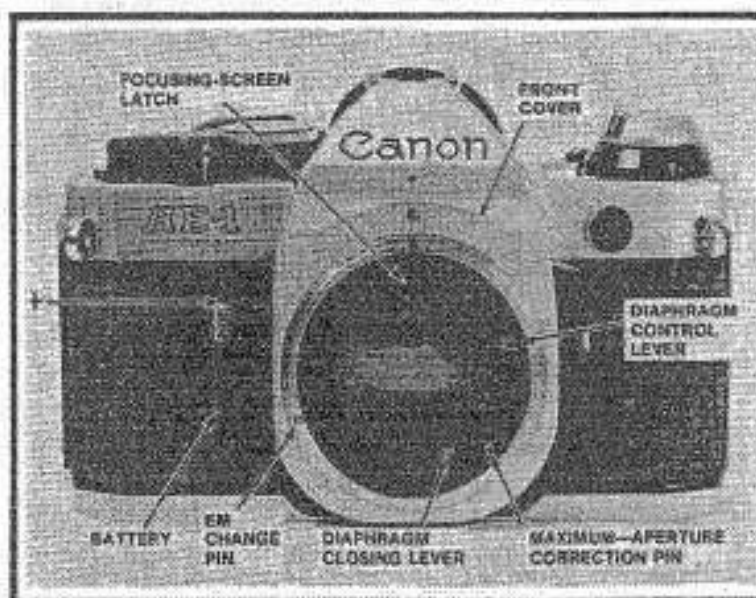

Figure 4
- **FOCUSING SCREEN:** Accepts interchangeable focusing screens. To remove the focusing screen, push up the latch at the top of the lens mount, Fig. 4. The standard screen is the E Type (split image and microprism). Other types available: A Type (microprism only), B Type (split-image only), C Type (all matte), D Type (matte with section lines), H Type (matte with scale), I Type (double crosshair reticle), and L Type (cross split image).
- Maximum-aperture resistor. Watch the  $f$ /stop LEDs as you push in the maximum-aperture correction pin, Fig. 4. The  $f$ /stop indication should step down smoothly to larger  $f$ /stops as the maximum-aperture correction pin moves in. If not, suspect a dirty maximum-aperture resistor or a defective IC4.